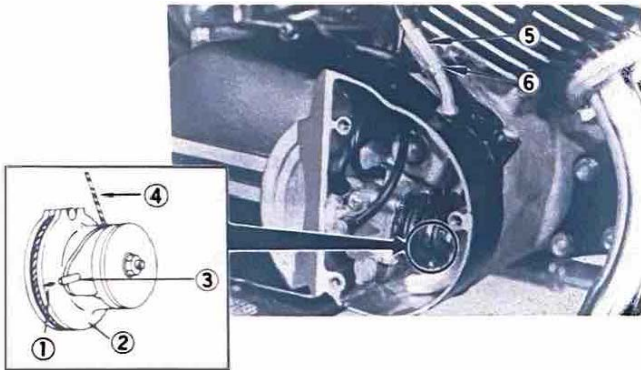

Fig. 52
4. Pump wire adjustment (Fig. 52)